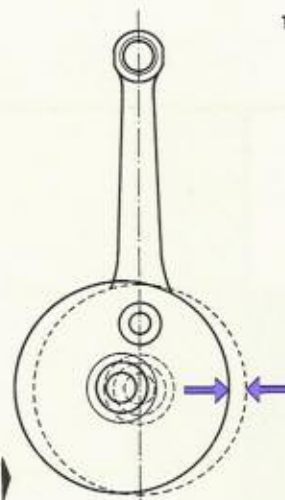

Fig. 17
1. Crankshaft lobes are out of true (fig. 17).